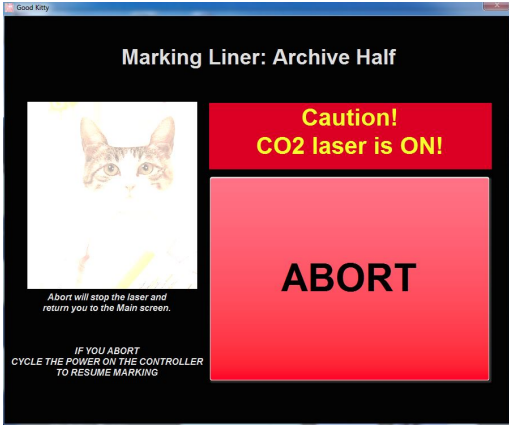

Figure 12. Marking Liner: Archive Half Abort button
10. Press the **NEXT** button (Figure 11). Laser will begin to engrave Archive Half and a new abort button will appear (Figure 12).